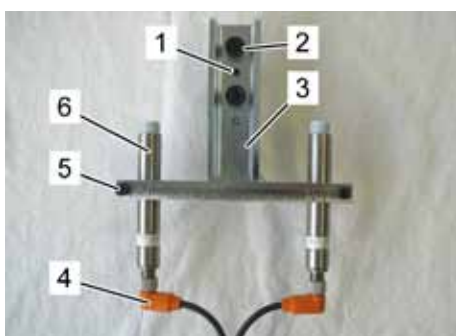

Fig. 98: Sensor bracket with sensors
1. Disconnect the sensor cables (Fig. 98/4) in the compartment where the inspection has to be made.
2. Leave sensors (Fig. 98/6) in their position and do not open the clamping bolts (Fig. 98/5).
3. Remove the fastening bolts (Fig. 98/2) of the sensor brackets.
4. Use on small brackets a large screwdriver and place it between the A-frame and the sensor bracket to separate the sensor brackets from the alignment pins (Fig. 98/1). On larger brackets please use the threaded hole, insert a threaded bolt and press the bracket from the A-frame screwing the bolt down.
7. Place the sensor bracket (Fig. 98/3) onto the alignment pins (Fig. 98/1).
8. Insert the fastening bolts (Fig. 98/2) with new NordLock® discs and tighten them with the correct torque moment (ð see chapter 8.4).